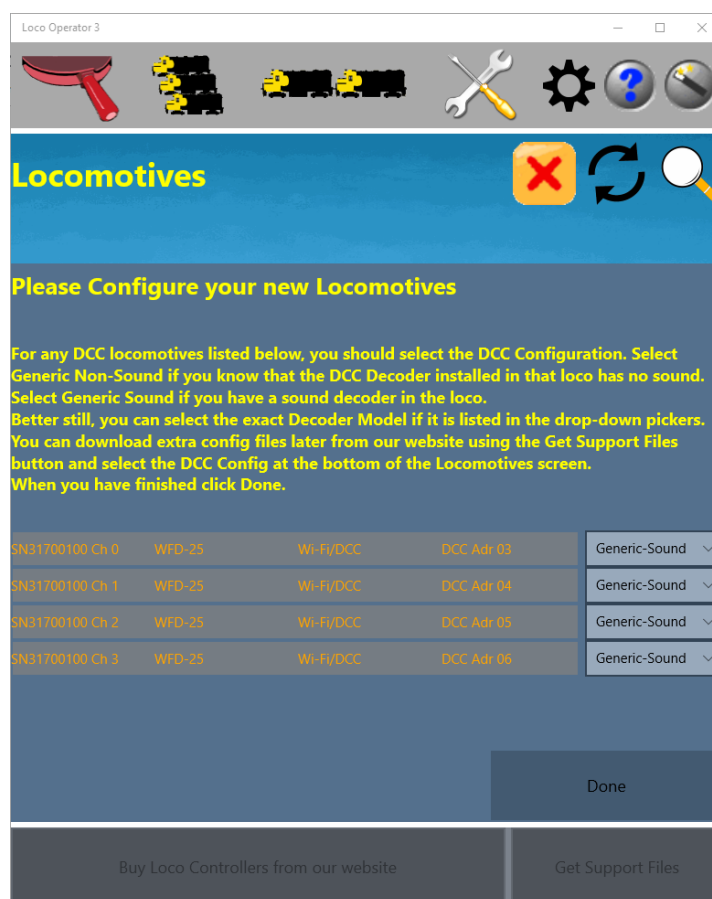

Figure 16 Configuration of new locomotives
- (8) Once some locomotive channels have been discovered – 4 in this case the New Loco Configuration Screen, Figure 16, appears. All the locomotives are based on the WFD-25 product, they have channels 0 through 3 and are all Wi-Fi/DCC. At the right of each locomotive is a drop-down that allows you to select a DCC decoder that matches what you have installed in the locomotives – this defaults to “Generic-Sound” but several specific manufacturer’s decoders are supported and you can select one that matches the decoder in the locomotive at the DCC address for that channel (see Table 1). When you are satisfied, click Done (you can change these later on the Locomotives screen).